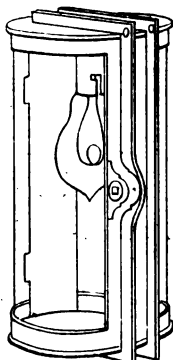

Fig. 71.—Two-way Bulkhead Fitting.
*Bulkhead Fitting for Incandescent Lamp.*—Bulkhead lamps are a class apart. Fig. 71 represents a bulk-